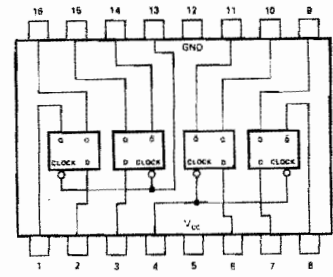

FIGURE 9
The 7475 latch circuit is shown in Figure 9. This device contains the equivalent of four flip-flops that operate similar to the 7474 previously discussed. The flip-flops here are not edge-triggered, however. Information present at the data (D) inputs is transferred to the Q output when the clock is HIGH, and the Q output will follow the data input as long as the clock remains HIGH. When the clock goes LOW, the information (that was present at the data input at the time the transition occurred) is retained at the Q output until the clock is permitted to go HIGH.